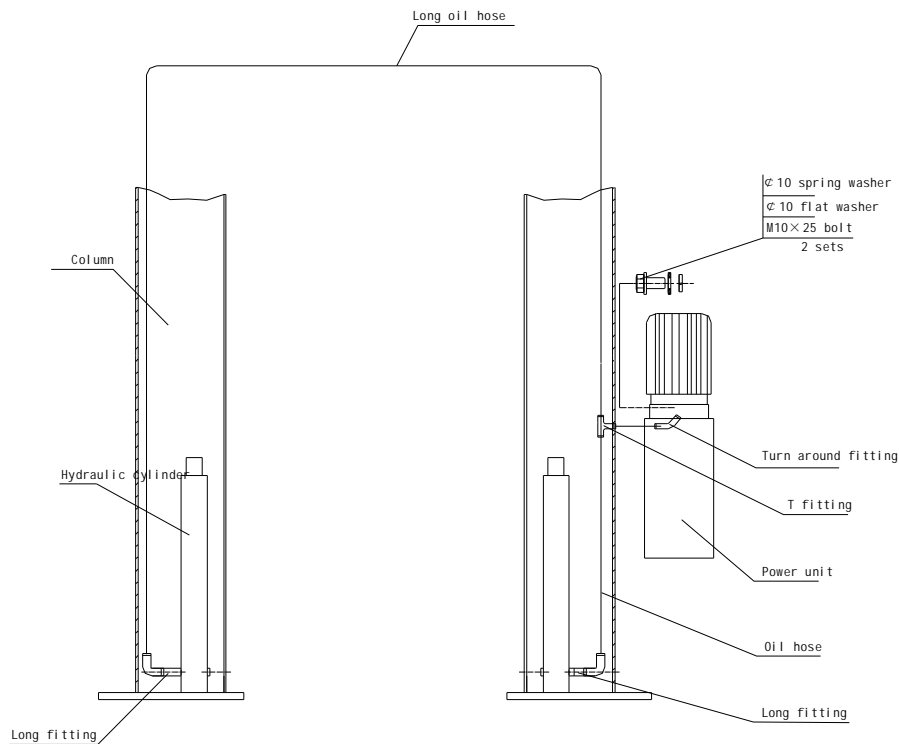

Fig.10
- 1 Use two M10 bolts and washers (as Fig.10) to secure the power unit. After the securing of the power unit. Fill the reservoir with hydraulic oil (oil capacity of 10L). Operate carefully to avoid dust and other pollutants mixed with the hydraulic oil.
TLT235AC hydraulic lines is shown in Fig.10; please perform the connection according to the diagram and all the fittings shall be tightened in order to prevent the oil leakage.